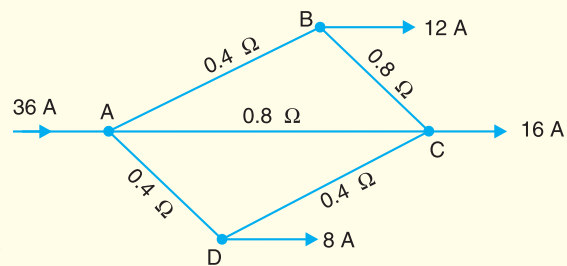

Fig. 13.47
3. In the d.c. network shown in Fig. 13.47, A is the feeding point and is maintained at 250 V. The resistances